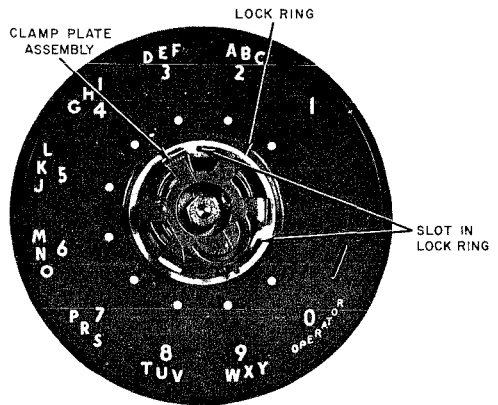

Fig. 6— Fingerwheel and Finger Stop Removed to Show Lock Ring
- (1) Remove fingerwheel (see 6.01).
- (2) Remove finger stop by loosening finger stop mounting screw.
- (3) Insert tip of screwdriver blade into one of the three slots on the lock ring (Fig. 6).